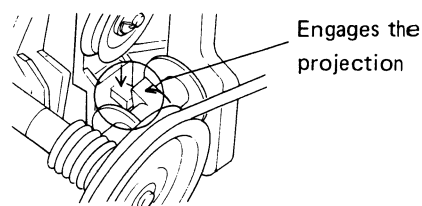

Fig. 10
5. The projection on shaft A engages the projection on plate A, and plate A is pushed down. (Fig. 10)